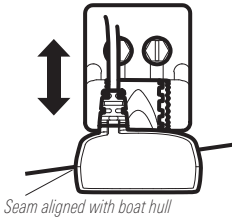

Figure 23
6. Adjust the transducer assembly vertically, until the seam on the leading edge of the transducer (the edge closest to the transom of the boat) is level and just slightly below the hull (Figure 23).
5. If you have the correct angle set on the transducer, yet lose a bottom reading at high speed, adjust the height and the running angle in small increments to give you the ideal transducer position for your boat. First, adjust the height in small increments (Figure 23).